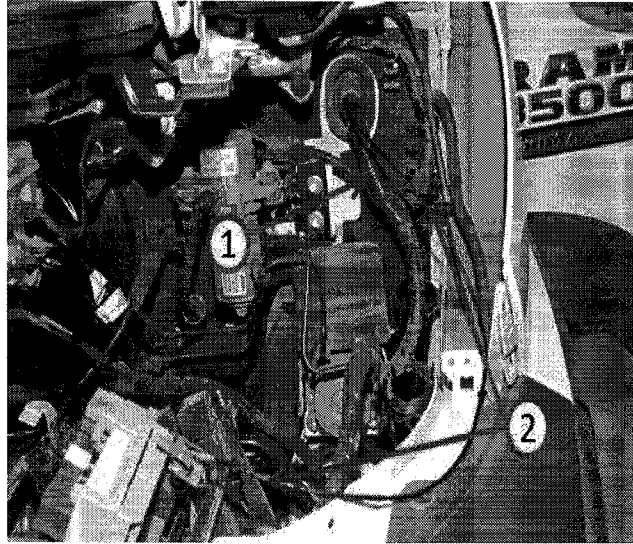

Fig. 8 Overlay Harness Underhood Location
11. Pull the wire and overlay harness through the grommet until enough length is exposed to properly route it along the head lamp/dash harness down to the PDC (See Figure 8).